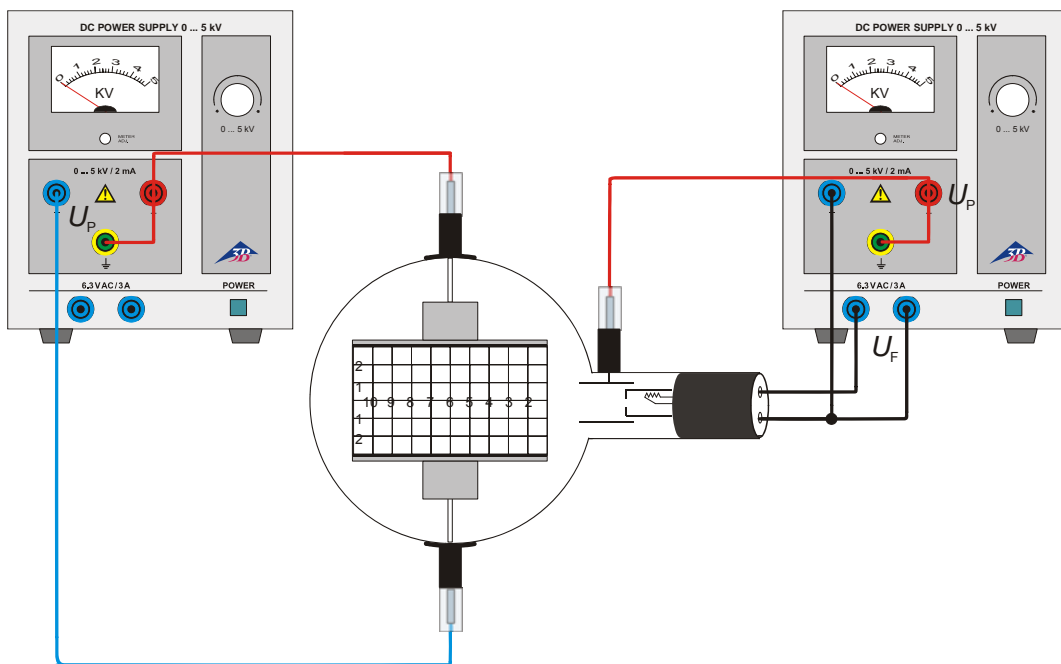

Fig. 3 Electric deflection
- Set up the tube as in fig 3. Connect the minus-pole of the anode voltage to the 4-mm socket marked with a minus.
- Set up the experiment as in Fig 3.